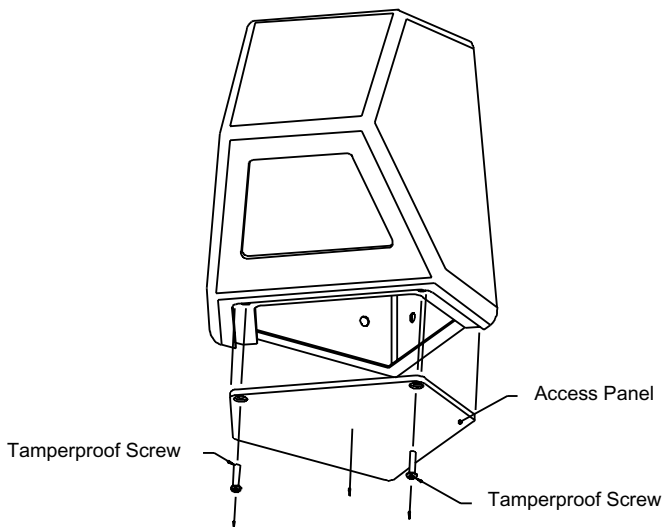

Figure 1: Removing Access Panel
2. **All Models Except HS9303L:** Use the special tool provided to unscrew the front two tamperproof screws. Remove the access panel. **See Figure 1.**